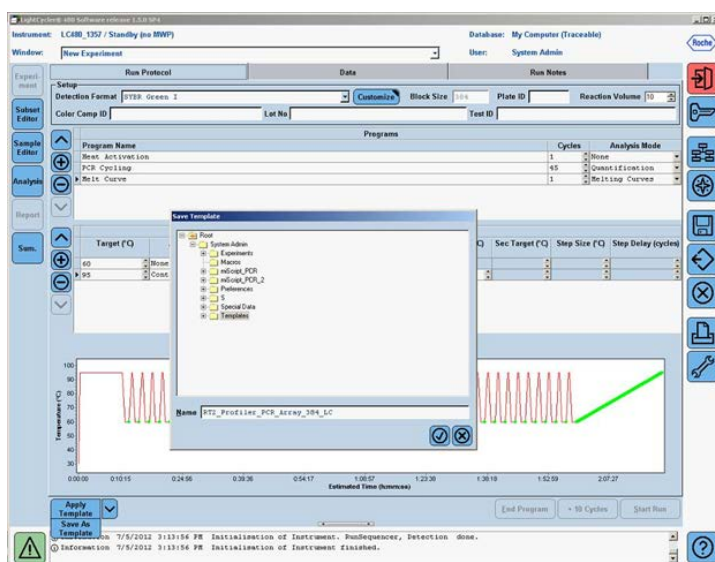

Figure 6. Saving the Run Template file.
- Click the down arrow button () right next to the Apply Template button on the lower left corner of the screen; select the Save As Template button (Figure 6) to save the run template under the filename "RT2_Profiler_PCR_Array_384_LC" if using the 384-well format or "RT2_Profiler_PCR_Array_96_LC" for if using the 96-well format. Open the door located on the front of the instrument by sliding it all the way to the top. To expose the thermal block, pull forward on the hot-top handle and lift the hot-top up and away from the thermal block. Place your plate in the plate holder with the last row (row H) facing front. Well A1 should be positioned at the top-left corner of the thermal block. Make sure the plate is properly aligned in the holder. Close the hot-top assembly by pressing down the hot-top and pushing the handle back into its original place. Slide down the door to close.